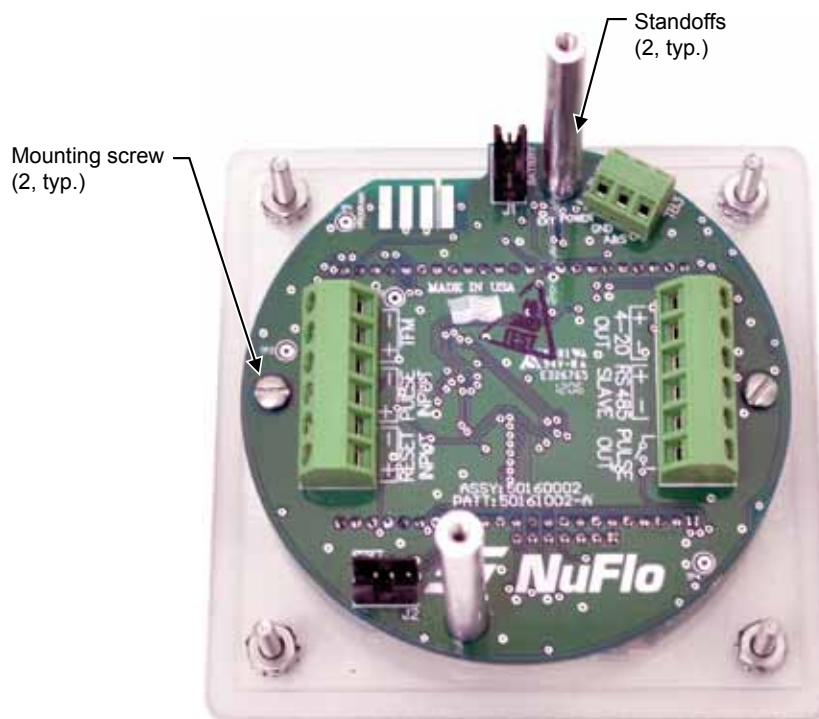

Figure 6.2—Removal of circuit assembly
6. Using a small flathead screwdriver, remove the two screws from the circuit assembly (Figure 6.2). Handle the board with care, noting that it is still attached to the keypad on the under side by a ribbon cable.